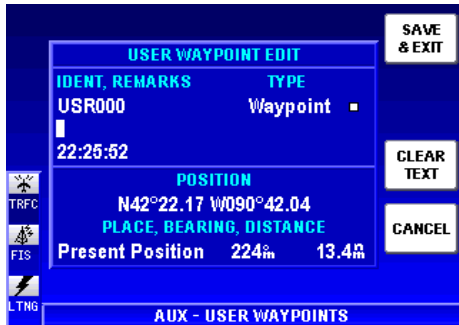

Figure 1-73
7. Press the **CLEAR TEXT** Softkey to clear the field as shown in Figure 1-73.